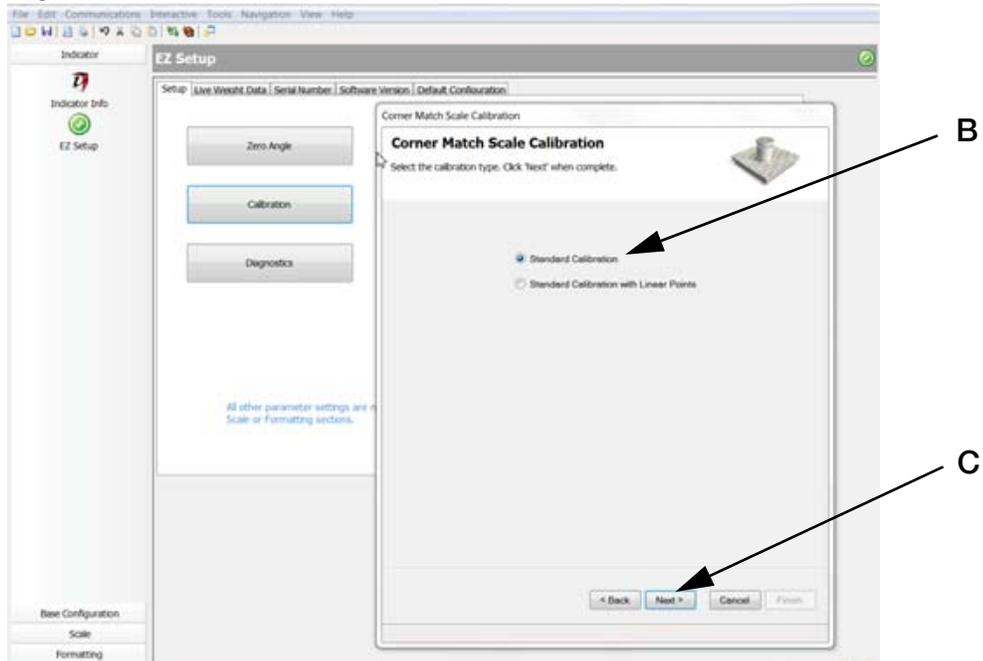

Figure 4-22. Enter Calibration
3. Select **Standard Calibration** (Figure 4-22 B).
4. Press **Next** (Figure 4-22 C).